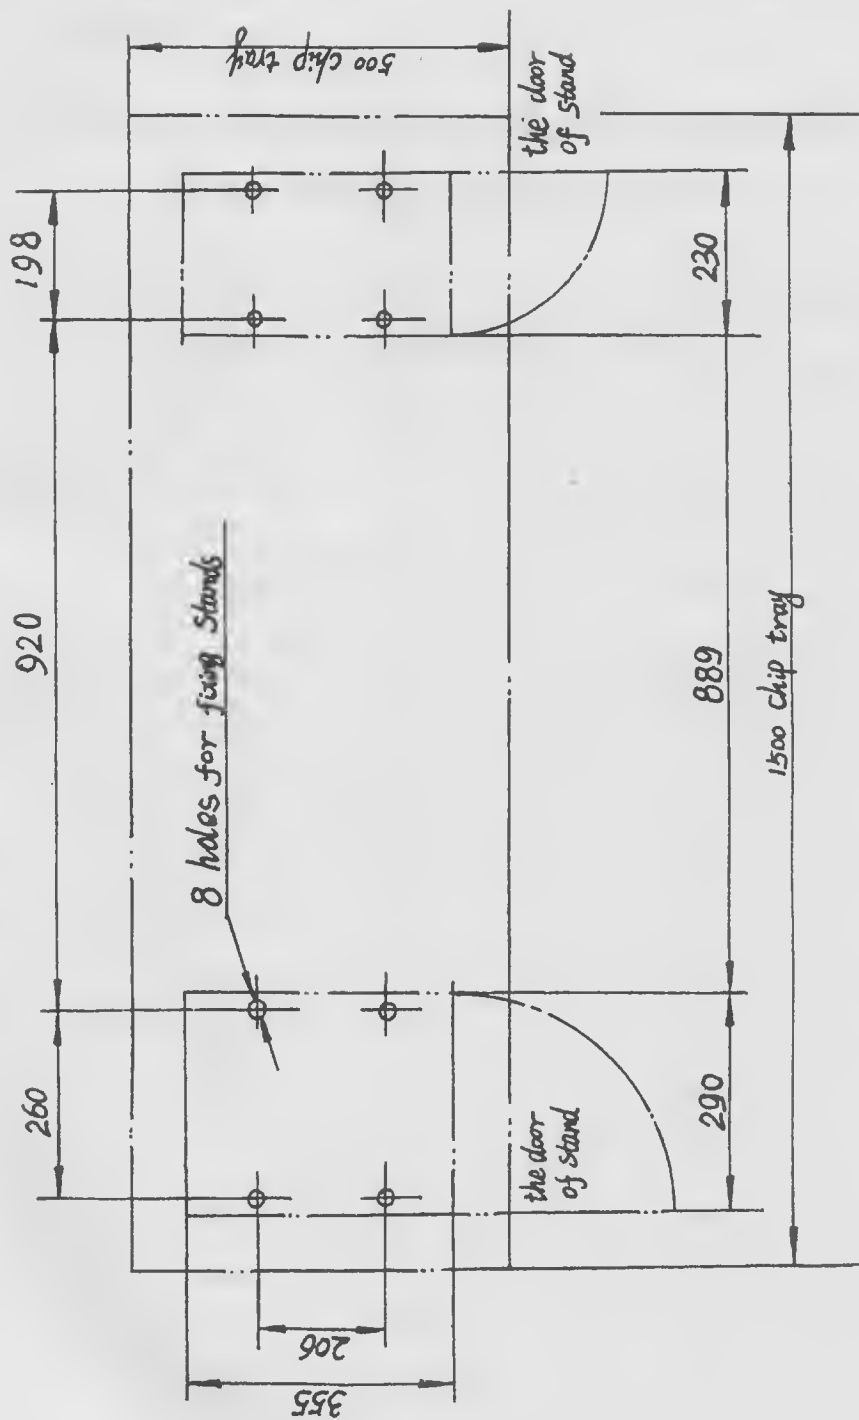

FIG. 3 Fixing dimensions for lathe stand cabinets
4. The fixed dimension of this machine are shown in the Fig. 3. The machine should be firmly attached to the floor by lathe stands. If you purchases a bench lathe, place the chip tray on top of the bench; mark off the location of the bed mounting holes using a pencil. Then drill the six bolt holes.